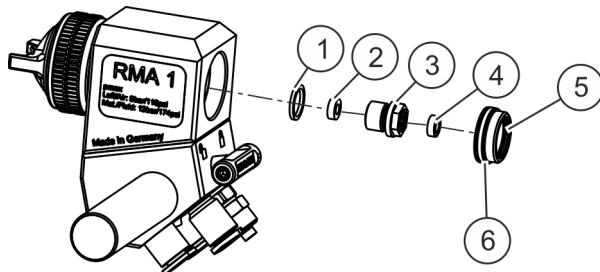

Fig. 13: Removing the needle seals
2. ➤ Remove the piston ( Fig. 13/5) and the O-ring ( Fig. 13/6). Check the O-ring for damage and replace it if necessary.
3. ➤ Unscrew the needle guide ( Fig. 13/3) from the main element and remove the slotted rings ( Fig. 13/2 and 4) with an O-ring picker.
5. ➤ Remove the O-ring ( Fig. 13/1) from the needle guide, check the condition and replace if necessary.
Put the O-ring back on the needle guide ( Fig. 13/3).